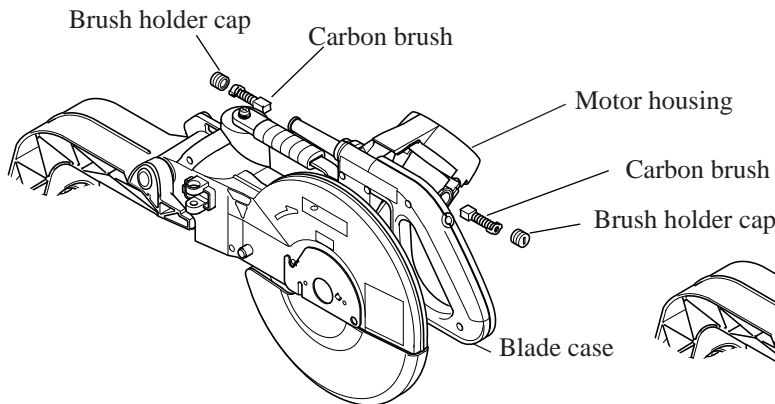
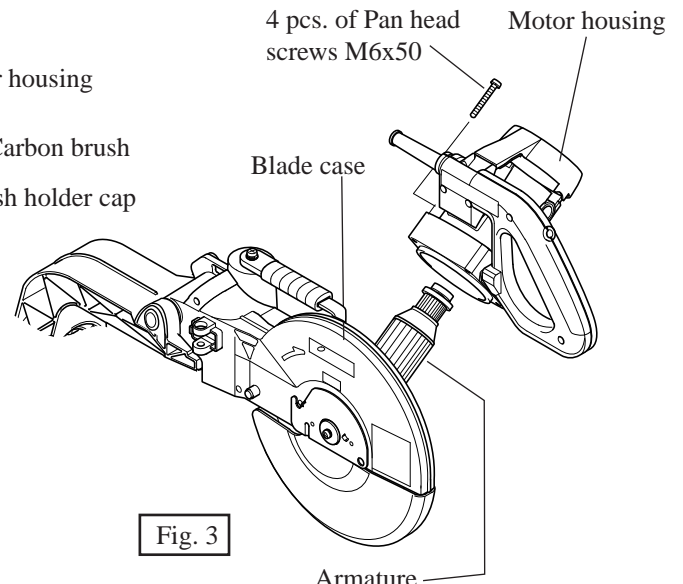
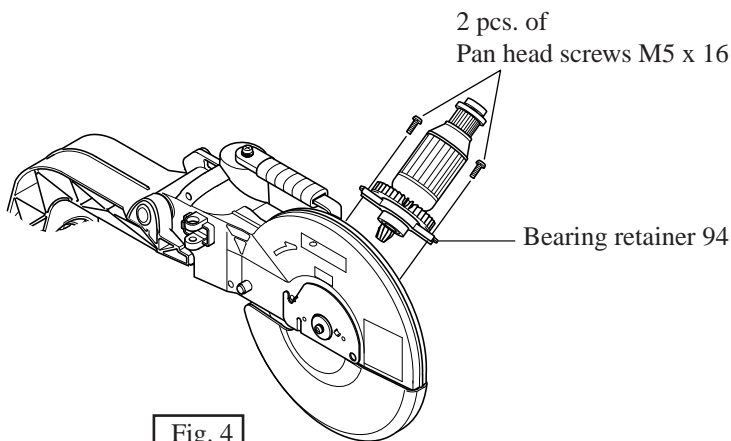

Fig. 2
Fig. 3
Fig. 4
- 1) Take off brush holder caps and carbon brushes. See Fig. 2.
- 2) Unscrew 4 pcs. of pan head screws M6x50 with which motor housing is fastened to blade case. See Fig. 3.
- 3) Separate motor housing from blade case. See Fig. 3.
- 4) Unscrew 2 pcs. of pan head screws M5 x 16, then bearing retainer 94 can be separated from blade case together with armature assembly. See Fig. 4.
- 2) Assemble the above armature to blade case by fastening bearing retainer 94 with 2 pcs. of pan head screws M5x16. See Fig. 4.
- 4) Assemble motor housing to blade case by fastening with 4 pcs. of pan head screws M6x50. And then, assemble carbon brushes and brush holder caps. See Fig. 3 and Fig. 4.
- 1) Disassemble armature as illustrated in Fig. 2, Fig. 3, and Fig. 4 at page 5.